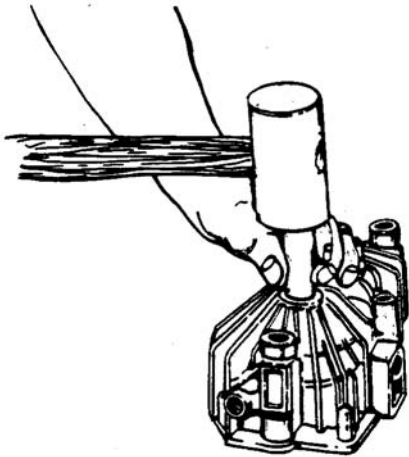

Figure 6-45. Pressing Seal Into Housing
- h. Press seal into housing bore. See Figure 6-45.